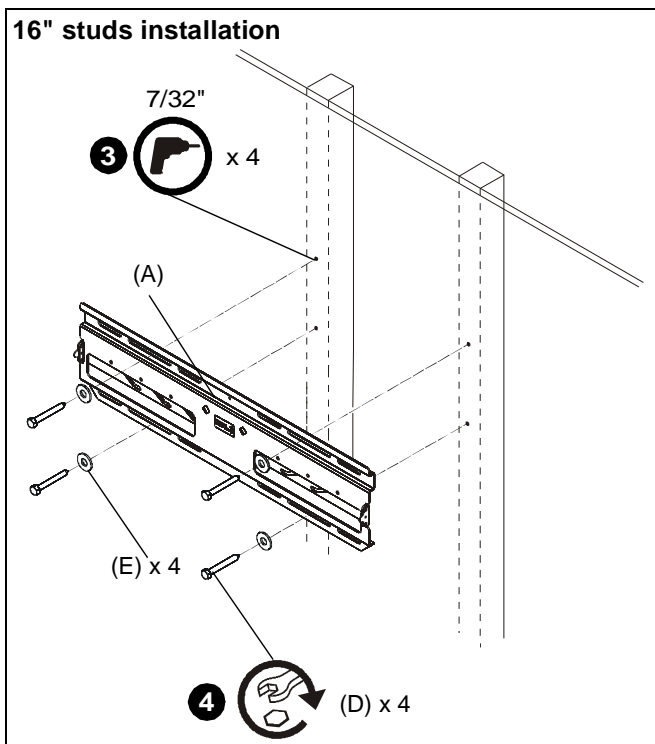
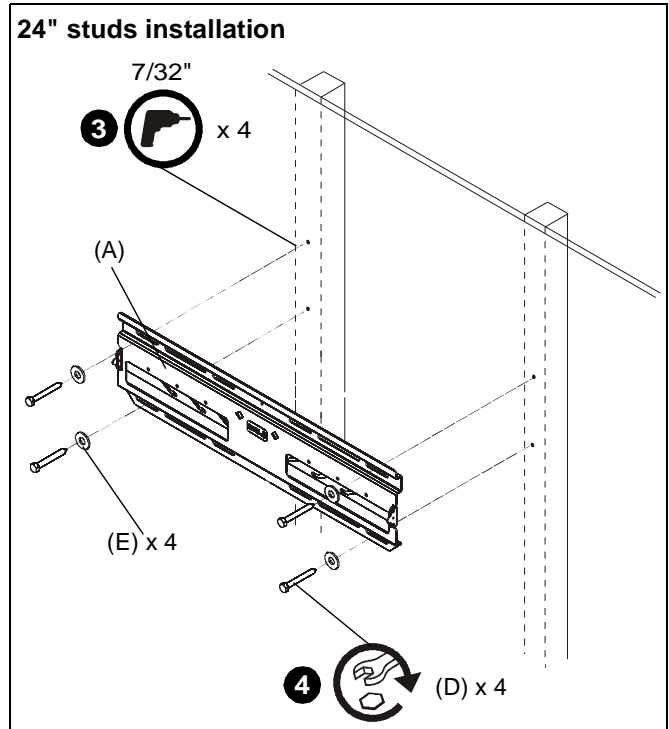

Figure 1
Figure 2
1. Determine a suitable mounting location and lift the wall plate (A) into mounting position on wall.
2. Using a small nail or screw (not provided) in the center hole, lightly support the wall plate at the mounting location. (See Figure 1)
3. Level the wall plate (A) and drill 7/32" pilot holes for anchoring the wall plate. (See Figure 1)
4. Using four 5/16 x 2 1/2" lag bolts (D) and four 5/16" washers (E), install the wall plate on the wall. (See Figure 1) and (See Figure 2)